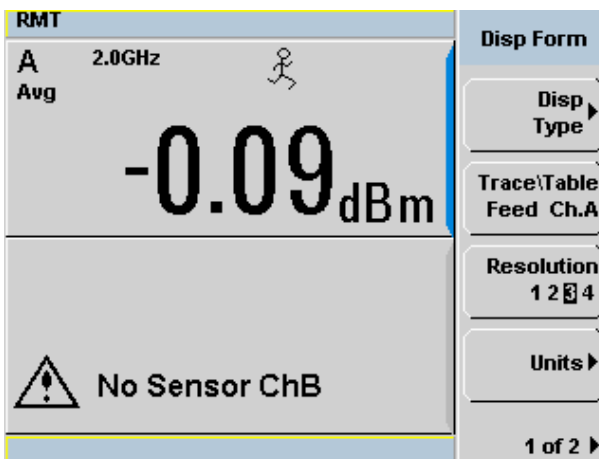

Figure 14. Average burst power of LTE-FDD measurement at 0 dBm
2. Set the frequency.	Press [Channel], press  or  to choose {Frequency} and change {Frequency} = 2 GHz. (See Figure 14 for measurement result).